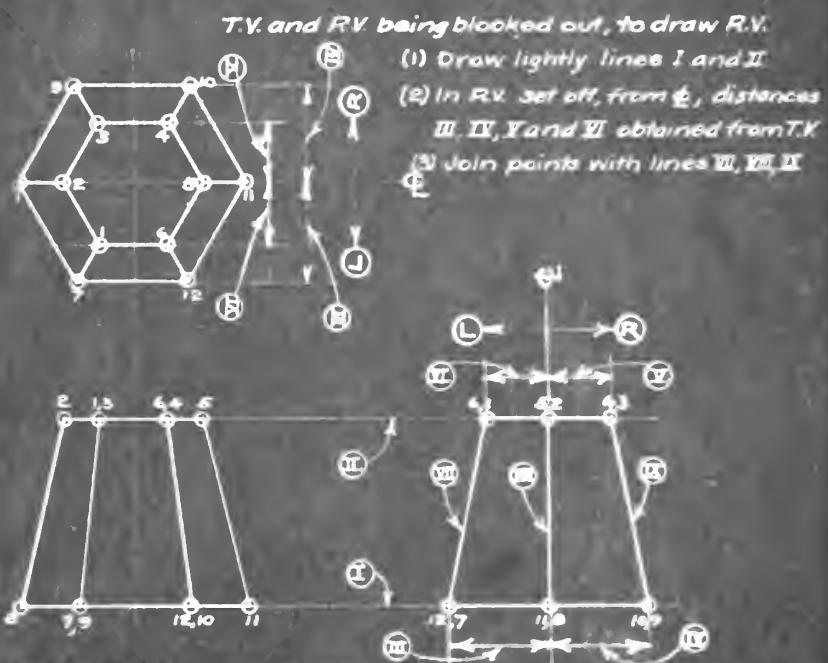

Fig. 4 - Two views given, to draw third.
PROB. 1 of Sheet 8 requires this to be done. Method shown by FIG. 4 on PAGE 41.
- (d) " " **R.V.** as explained by FIG. 4 on PAGE 41.